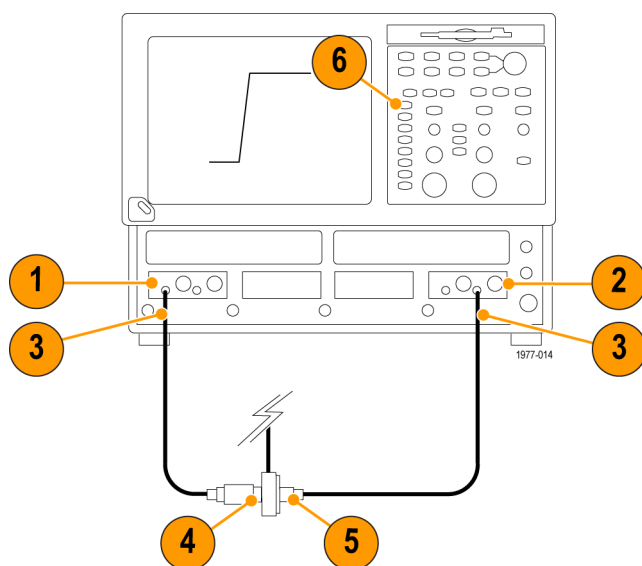

Figure 12: Test system rise time setup
1. Connect the 80E04 sampling head to Channel 1 of the sampling oscilloscope. (See Figure 12.)
11. Adjust the oscilloscope horizontal and vertical position controls to display a signal similar to that shown. (See Figure 12.)